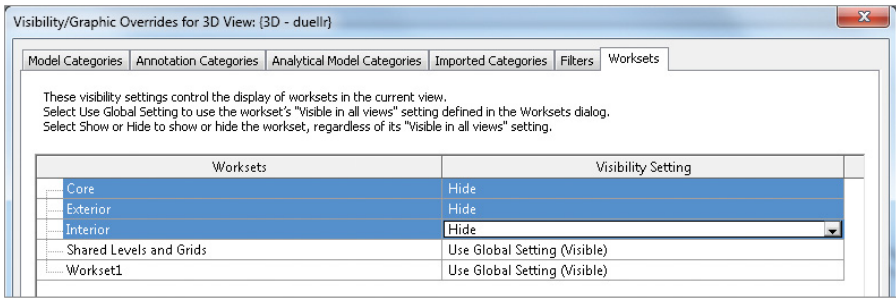

FIGURE 10.8 The Worksets tab
3. Open the Visibility/Graphic Overrides dialog box for the view (press VG on the keyboard). As you can see in Figure 10.8, there's an additional Worksets tab that didn't exist before worksharing was enabled. This tab allows you to turn off elements based on their workset assignment.
To do this, set the Visibility Setting column for the active view to Hide, as shown in Figure 10.8. As geometry is assigned to each of those worksets, it will disappear from view and keep you from accidentally selecting it again.